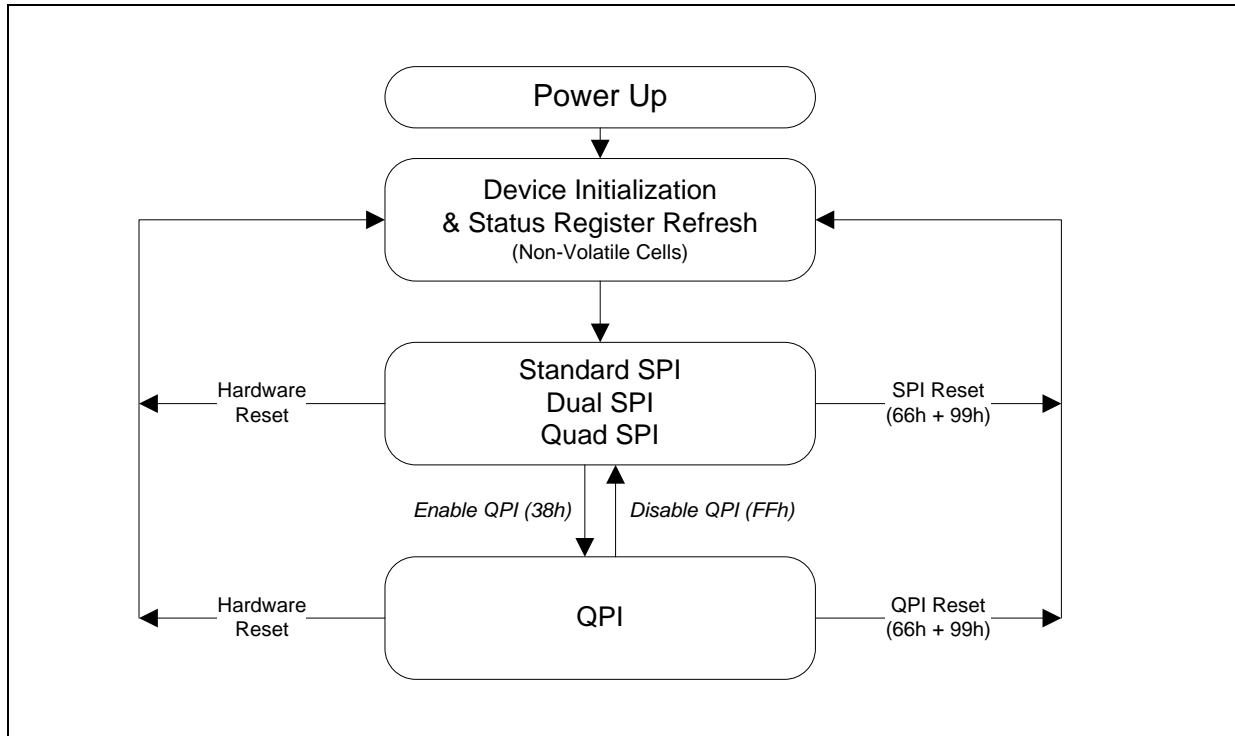

Figure 3. W25Q80RL Serial Flash Memory Operation Diagram
The W25Q80RL supports Quad Peripheral Interface (QPI) operations only when the device is switched from Standard/Dual/Quad SPI mode to QPI mode using the “Enter QPI (38h)” command. The typical SPI protocol requires that the byte-long command code being shifted into the device only via DI pin in eight serial clocks. The QPI mode utilizes all four IO pins to input the command code, thus only two serial clocks are required. This can significantly reduce the SPI command overhead and improve system performance in an XIP environment. Standard/Dual/Quad SPI mode and QPI mode are exclusive. Only one mode can be active at any given time. “Enter QPI (38h)” and “Exit QPI (FFh)” commands are used to switch between these two modes. Upon power-up or after a software reset using “Reset (99h)” command, the default state of the device is Standard/Dual/Quad SPI mode. To enable QPI mode, the non-volatile Quad Enable bit (QE) in Status Register-2 is required to be set. When using QPI commands, the DI and DO pins become bidirectional IO0 and IO1, and the /WP and /HOLD pins become IO2 and IO3 respectively. See Figure 3 for the device operation modes.